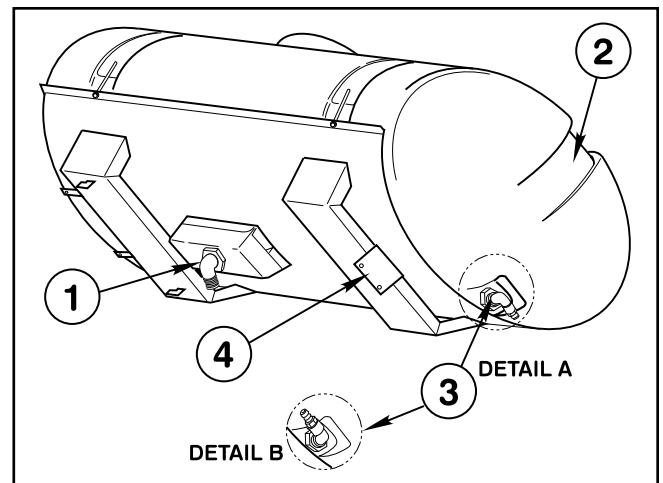
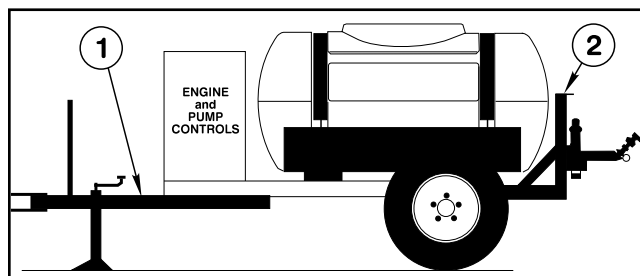
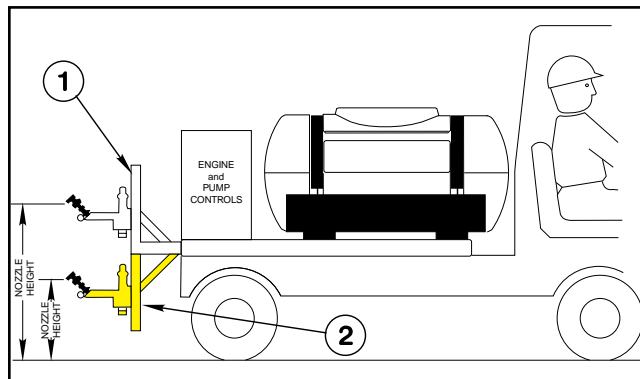

FIG. 2
FIG. 3
FIG. 4
3. Apply thread sealer and install the 90° barbed elbow into the bottom of the Tank. See FIG. 2.
4. Apply thread sealer and assemble the 90° St. elbow to the male Quick Coupler. Install the elbow into the fitting at the spill-way end of the Tank, so that it angles toward the outside of the Tank as shown in FIG. 2.
**NOTE:** If the Skid Sprayer is to be installed on a Trailer, (as shown in FIG. 3), install the Elbow and Quick Coupler in the Tank as shown in Detail "A" of FIG. 2. If the Skid Sprayer is to be installed on a Transport Vehicle (as shown in FIG. 4), install the Elbow and Quick Coupler as shown in Detail "B" of FIG. 2.
If the Skid Sprayer is to be equipped with the optional Trailer Package (Model No. 41415), mount the Boom as shown in FIG. 3.
- a. If this distance is measured at 24" or less on your vehicle, install the Boom Mounts in the **upright** position. See FIG. 4.
4. Connect the Overflow Hose to the Quick Coupler in the spill-way end of the Tank (FIG. 2).